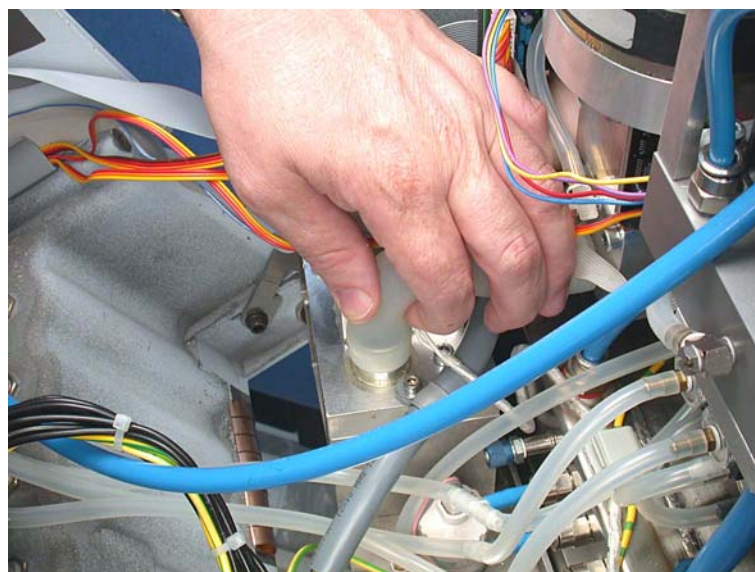
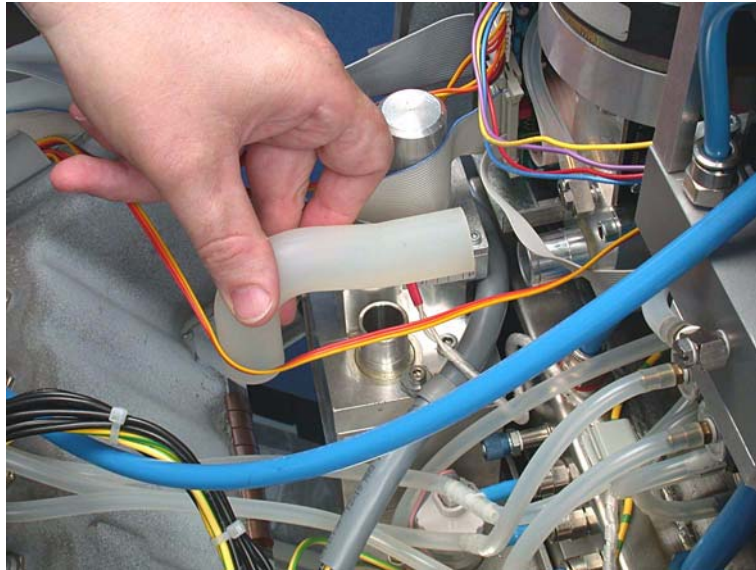

Figure 11-117. Removing the shaped tube from the safety valve block
Figure 11-118. The tube removed
4. Pull the white, shaped tube off the safety valve block (Figure 11-117), and then off the inspiratory (servo) valve Figure 11-118).